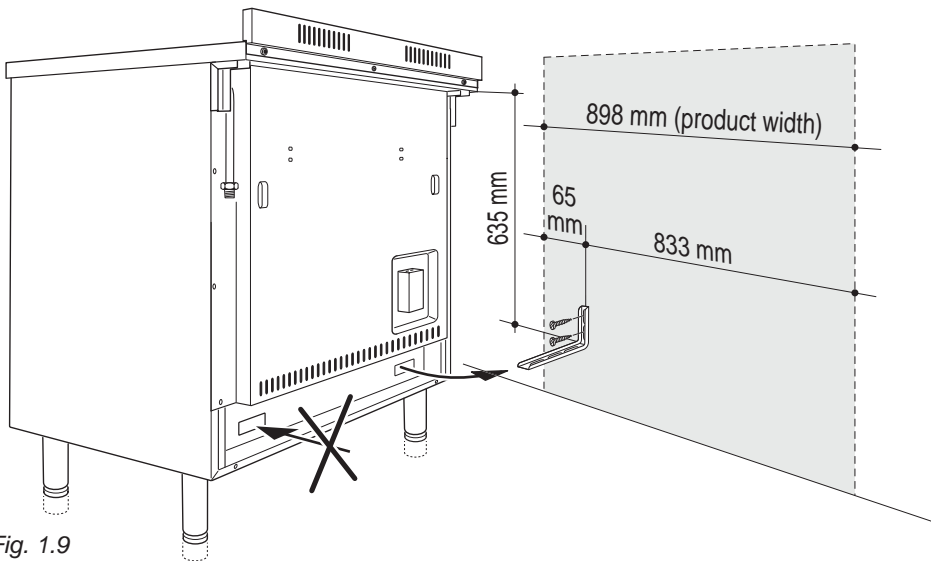

Fig. 1.9
Please follow the indications given in fig. 1.9.
4. Move the cooker to the wall and adjust the height of the anti-tilt bracket so that it can engage in the slot on the cooker's back, as shown in fig. 1.9.